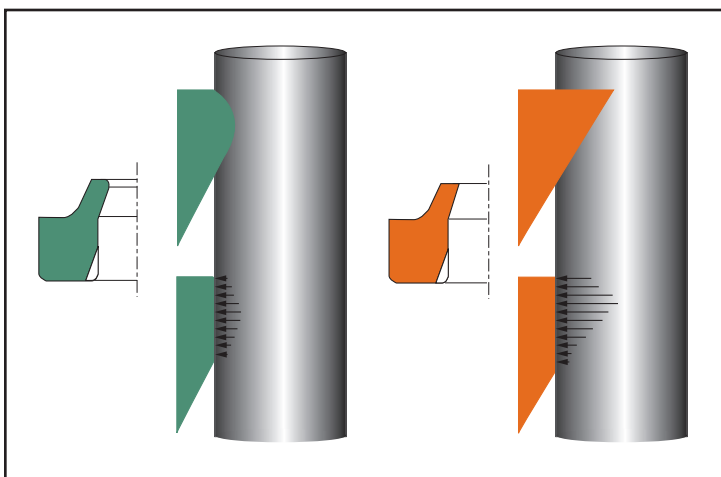

Figure 8-1. Radius vs. Straight Cut Lip Geometry
3. Lip Geometry: Parker wipers are designed to give the best possible exclusion performance by featuring perpendicular, or "straight-cut" lip geometries. The footprint of a sharp, straight-cut wiper causes a high concentration of forces which maximizes fluid film breakage while allowing contaminants to be pushed away from the wiping edge. (See Figure 8-1.) The footprint of a radiused lip, however,